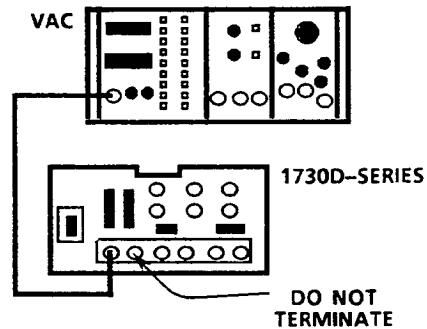

Figure 7-7: Test equipment hook-up for setting calibrator signal amplitude
- a. Connect the VAC signal to the 1730D CH-1 ANALOG INPUT; do not terminate. See Figure 7-7.